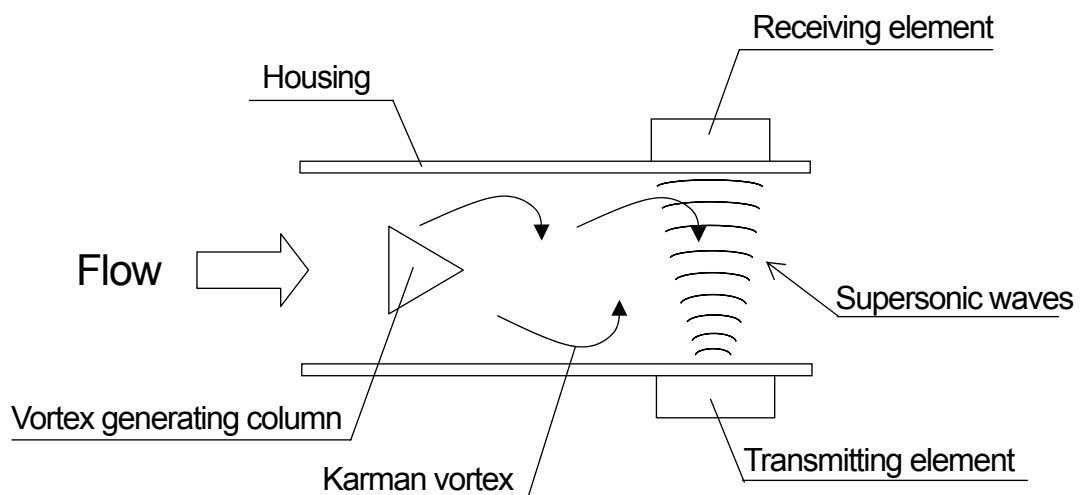

Fig. 1 Illustration about how it works
$S t$  is a dimensionless constant which is called Strouhal number. Based on the fact that Strouhal Number is a constant in accordance with the shape of the vortex generator in the ranges of a certain of Reynolds Number,  $V$  is to be determined by measuring the generated frequency  $f$ , thereby we can obtain the volumetric flowrate from  $V$ . This Supersonic flowmeter, as shown in Fig. 1, is equipped with an supersonic sensor that consists of a pair of transmitter(TX) and receiver(RX). This sensor is mounted at the wake flow of the vortex generator.